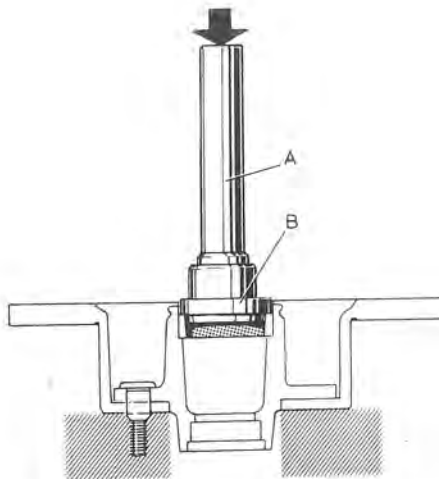
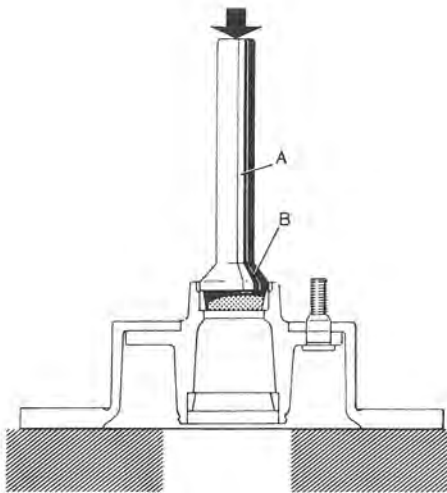

Fig. 7-24. Installing inner bearing ring
Fig. 7-25. Installing outer bearing ring
7. Press in the new bearing rings. In addition to using standard handle 1801, use drift 5005 (Fig. 7-24) for the inner ring, and drift 2724 (Fig. 7-25) for the outer bearing ring.